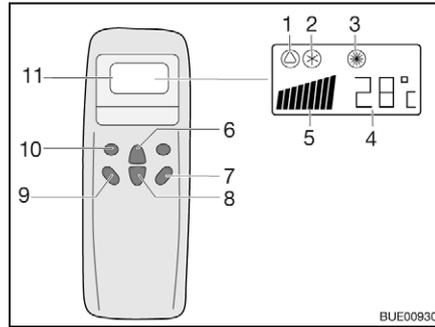
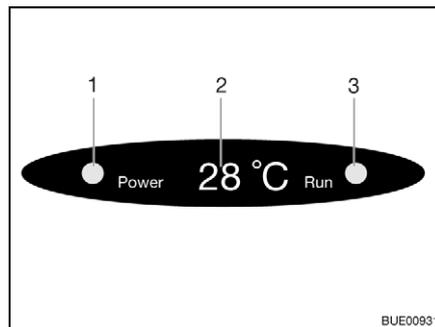

Fig. 146 Remote control
Fig. 147 Display on the diffuser
- Press the "ON/OFF" button (Fig. 146,7).
- Press the "Mode" button (Fig. 146,10) as often as required until the required mode (Fig. 146,1, 2 or 3) is indicated on the display. The corresponding indicator lamp on the diffuser display (Fig. 147,3) lights up.
- Use the temperature increase button (Fig. 146,6) or temperature reduction button (Fig. 146,8) to set the required temperature.
- Use the ventilation speed button (Fig. 146,9) to select the required ventilation level.